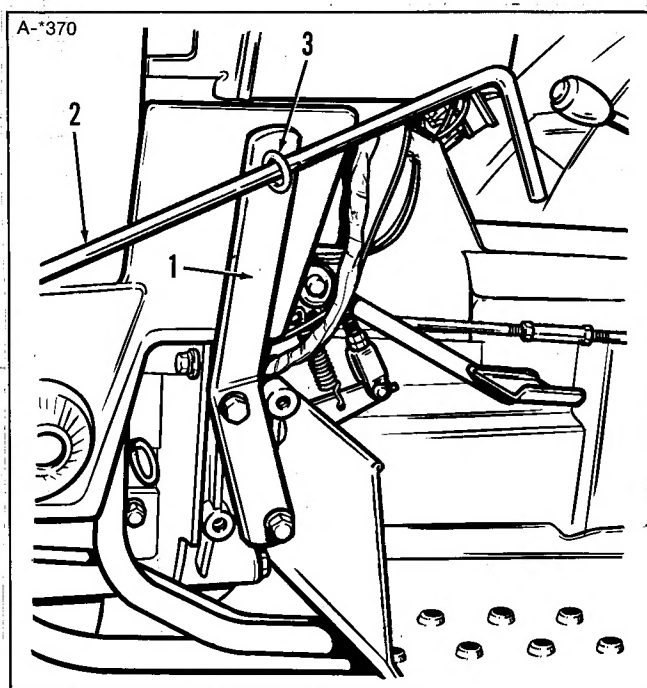
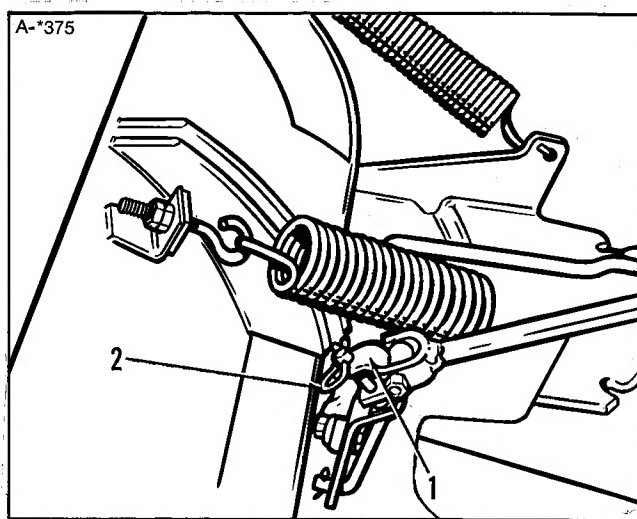

Figure 4.
Figure 5.
4. Attach the support bracket (1, figure 4) to the side of the tractor as shown with two M12 x 1-1/2 x 40 MM capscrews and 12MM lockwashers. Do not torque more than 35 ft. lbs. (48 N.m).
5. Attach the control rod (2) with the eyebolt (3) lockwasher and 1/4 nut.
6. Attach front end of control rod to dozer blade by placing the clevis (1, figure 5) onto the pin and securing with the spring clip (2).